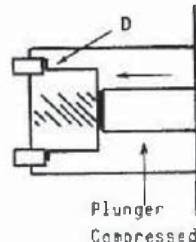

Fig. 8-2
Fig. 8-2 shows the plunger compressed into the body of the switch, collapsing the spring, causing a U-shaped, bronze jumper strip (D) to complete a circuit across the internal contacts. A pair of screw terminals at A are seen as physical extensions of the internal contacts, (B).